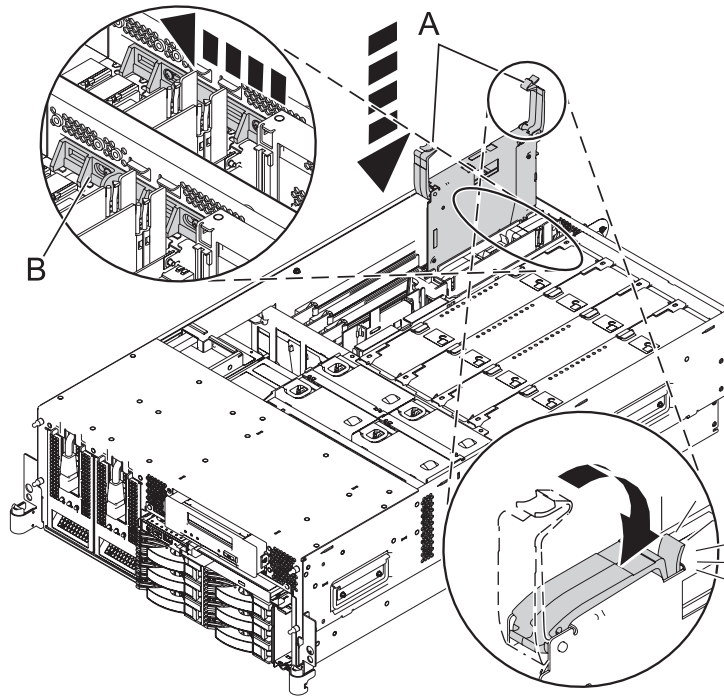
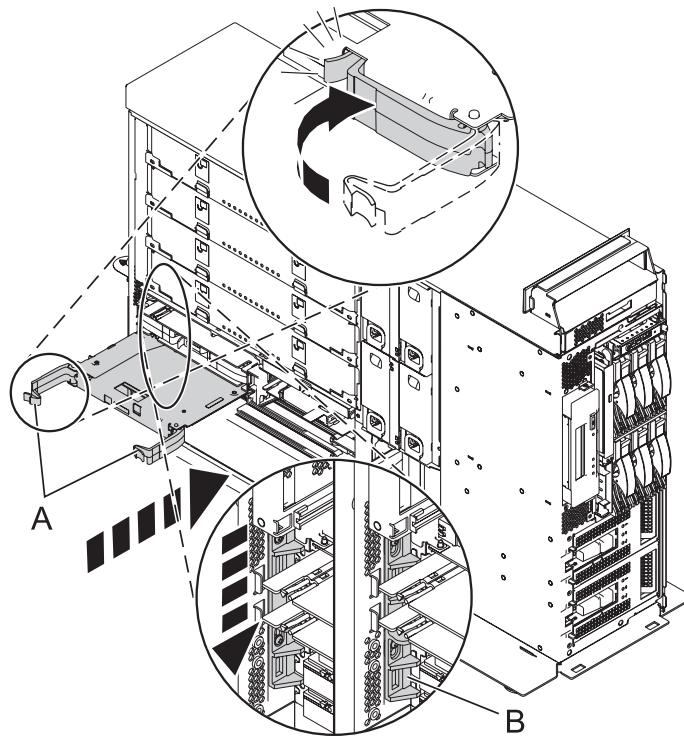

Figure 12. Adapter installation in a rack-mounted system (8204-E8A)
Figure 13. Adapter installation in a stand-alone system (8204-E8A)
- For model 8204-E8A or 9409-M50, see Figure 12 on page 18 or Figure 13 on page 18. Push down evenly on both of the blue locking latches (A) at the same time until the latches snap into place, indicating that the adapter assembly is seated correctly and locked into position. Slide the retainers (B) into the closed position.